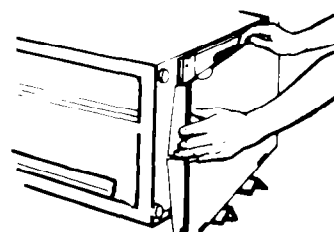

FIGURE 8
6. Lay two carton corner posts or other protective material (such as a throw rug) on the floor, then lay the unit on either of its sides on the corner posts. The corner posts will protect the finish of the compactor and the floor. See Figure 8. *NOTE: Do not truck or handle by console.*
Remove the cardboard shipping pad located on the bottom. See Figure 8.